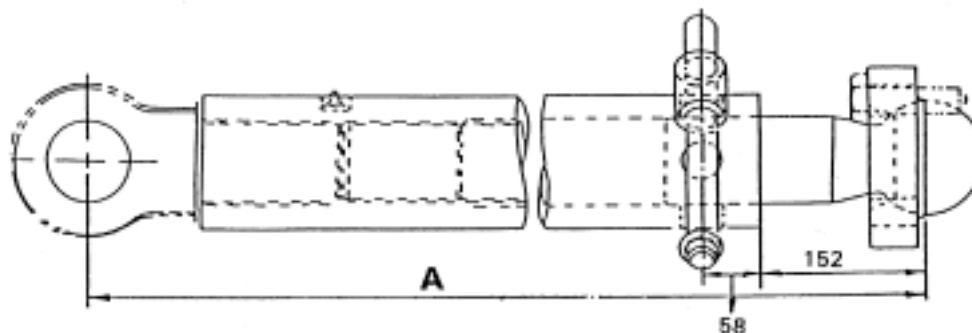

Fig. 4.28. Upper strut adjustment
- 1. To pitch the blade forward (increasing the suction angle), raise the blade several centimeters off the ground. Shut off the engine. Refer to „STOPPING THE ENGINE”. Then extend the upper struts (3) on each side of the blade an equal amount in the range of dimensions A given on Fig. 4.28.